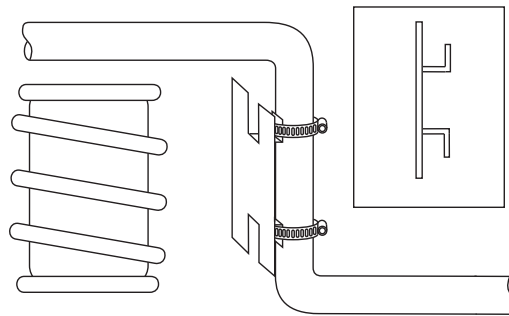

fig. 22
4. Bend the heat shield tab out at a 90° angle and again half the distance up at a 90° angle to form an "L" shape. Repeat on the other tab (Fig. 22). Position heat shield and insert the heat shield tabs beneath the two radiator clamps. Tighten the clamps (Fig. 22).